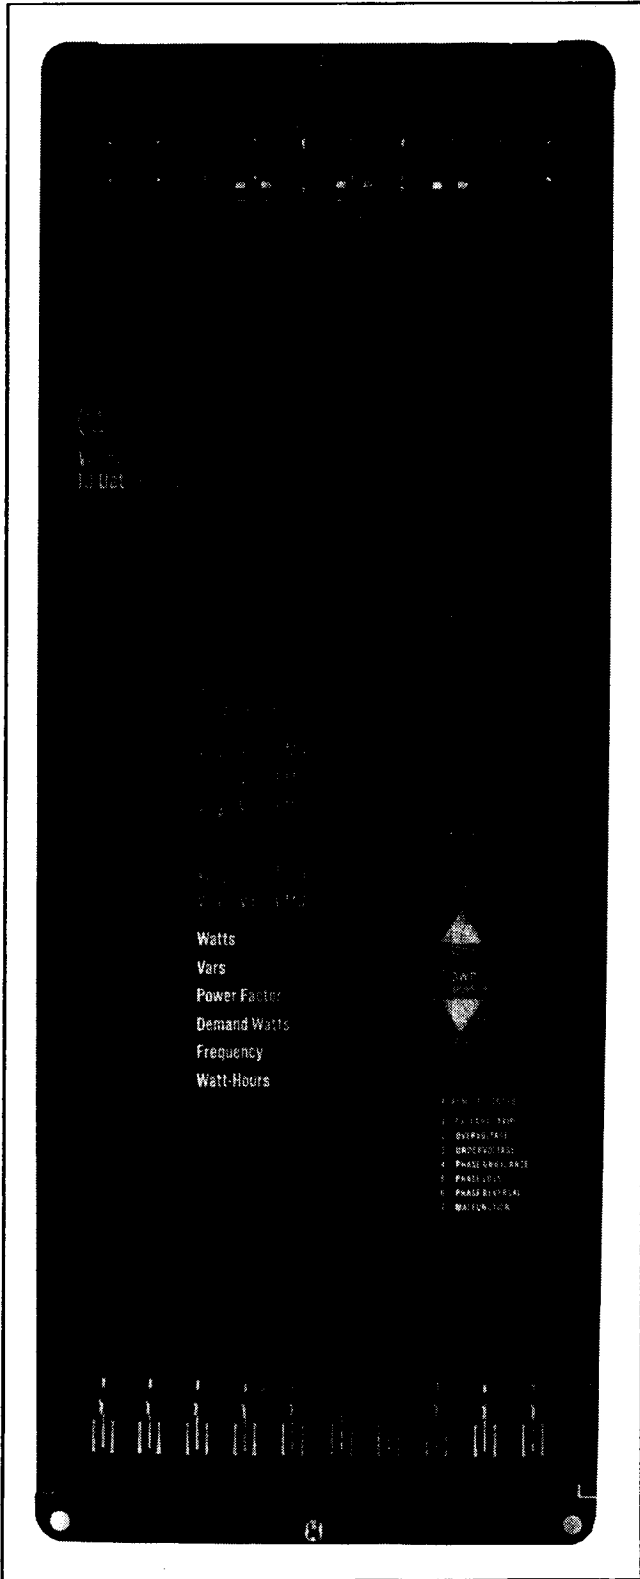

Fig. 4 IQ Data Plus II Drawout Case with Front Cover Removed
Step 2 – Loosen the knurled screw at the bottom of the drawout case front cover, swing the bottom of the cover away from the drawout case and lift off the front cover. See Figure 4.